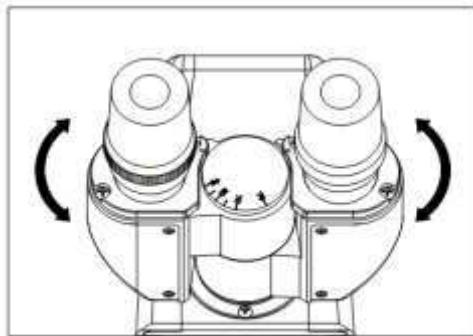

Fig.22
3.3.6 Adjusting the Interpupillary Distance (Fig.22)
When observing with two eyes, hold on the left and right prism holders, turn them around the axis to adjust the interpupillary distance until the left and right fields of view coincide completely as shown in Fig.22.